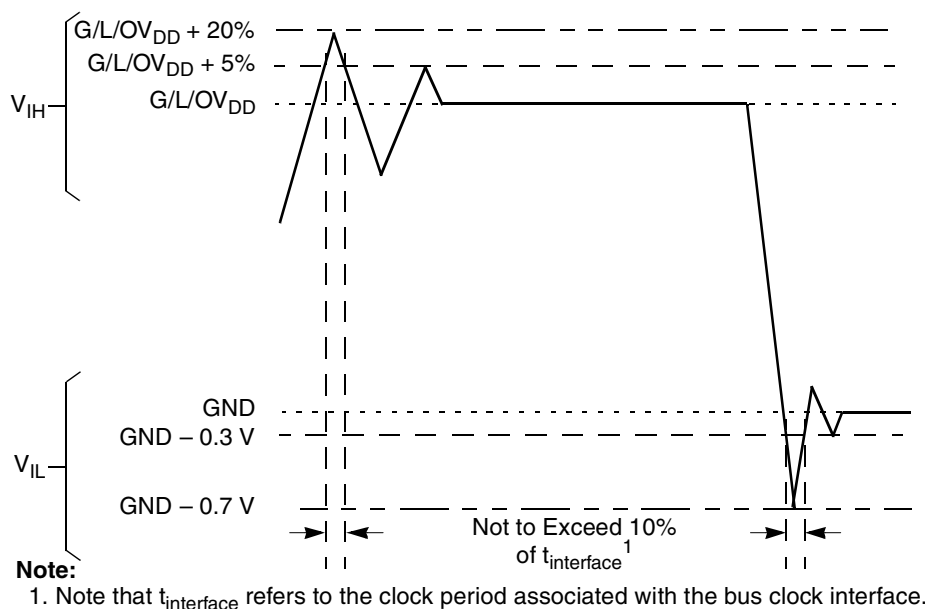

Figure 3. Overshoot/Undershoot Voltage for $GV_{DD}/OV_{DD}/LV_{DD}$
- (M,L,O) V_{IN} and MV_{REF} may overshoot/undershoot to a voltage and for a maximum duration as shown in Figure 3.
Figure 3 shows the undershoot and overshoot voltages at the interfaces of the device.